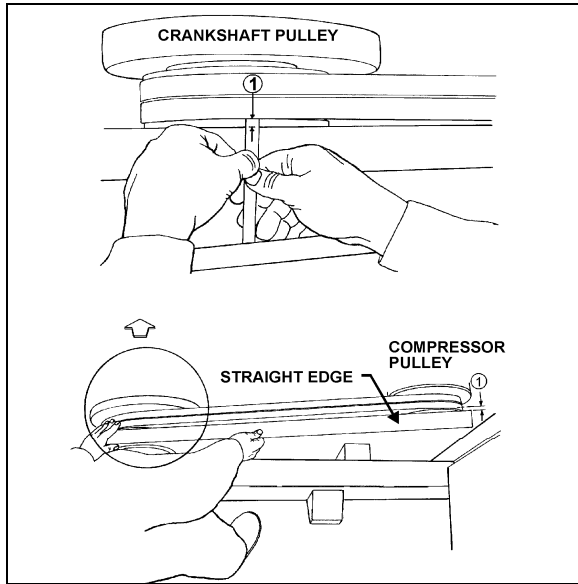

FIGURE 25: COMPRESSOR ALIGNMENT 22040
2. Check the distance between each extremity of straight edge (1. Fig. 25) and the first drive belt. If they are different, loosen the compressor support bolts and with a hammer, knock support to slide it in order to obtain the same distance; then tighten bolts.
2. Check the distance between each extremity of straight edge (1, Fig. 25) and drive belt. If they are different, loosen the pillow block compressor bolts and with a hammer, knock compressor pillow block to slide it, in order to obtain the same distance; then tighten bolts.